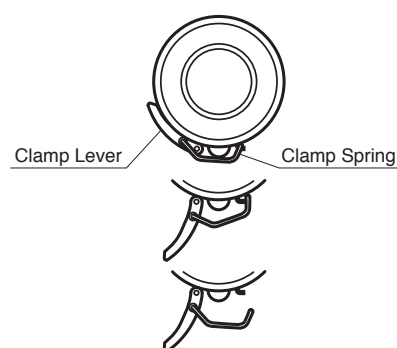

Fig. 11
- (1) To disassemble Needle Guide Ass'y, pull up the Clamp Lever and remove the Clamp Spring from the hook on the Guide. Take out the Needle Guide from the tool body. (Fig. 11)